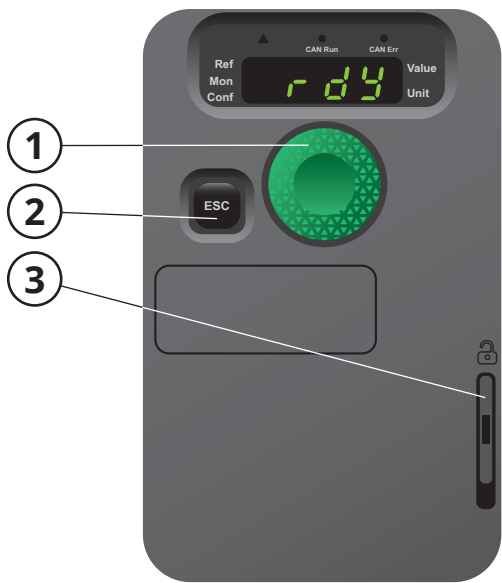

Fig. 1
All programming is executed on the keys at the front display **Fig. 1**. The jog dial (1) is used for navigating the menus and to select or confirm information. The ESC key (2) quits a menu/parameter or clears and reverts the value. The front panel is opened via button (3).